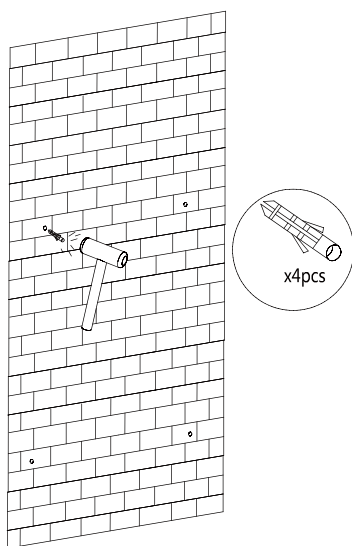

Fig. 4
- Place the support by matching the holes with the rawlplugs and screw in firmly. (Fig.4).